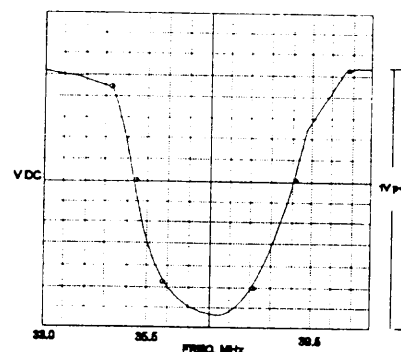

Fig 3.
- 3: Adjust T105 to obtain max. amplitude. Refer to fig. 3.
- 6: Adjust tuner converter coil to obtain waveform as in fig. 3.